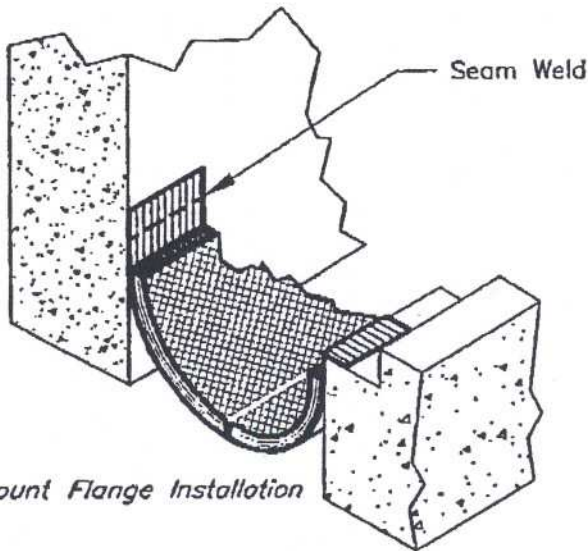
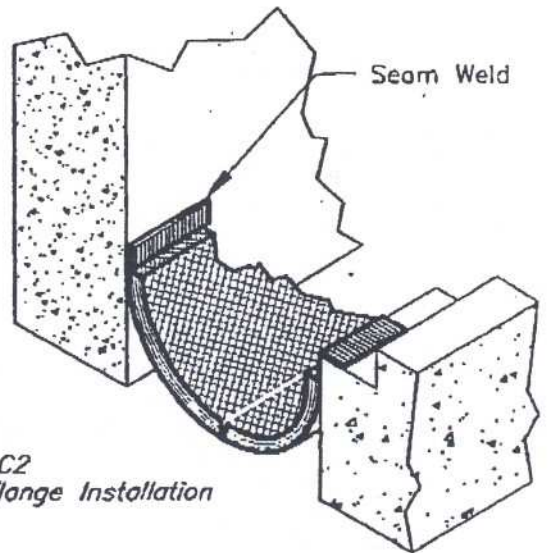

Fig. B2
Fig. C2
After completing material preparation described on page 1 and as shown in Fig. A, place the fire barrier in the expansion joint. The foil flanges can be folded along the seam weld line onto the exposed face of the floor slab. The foil flange can be run up the wall on the other side of the joint. (See Fig. B2). With the Low Profile (LP) galvanized flange configuration on the wall side, the foil flange can be folded over itself before the galvanized flange is fastened into place. (See Fig. C2)